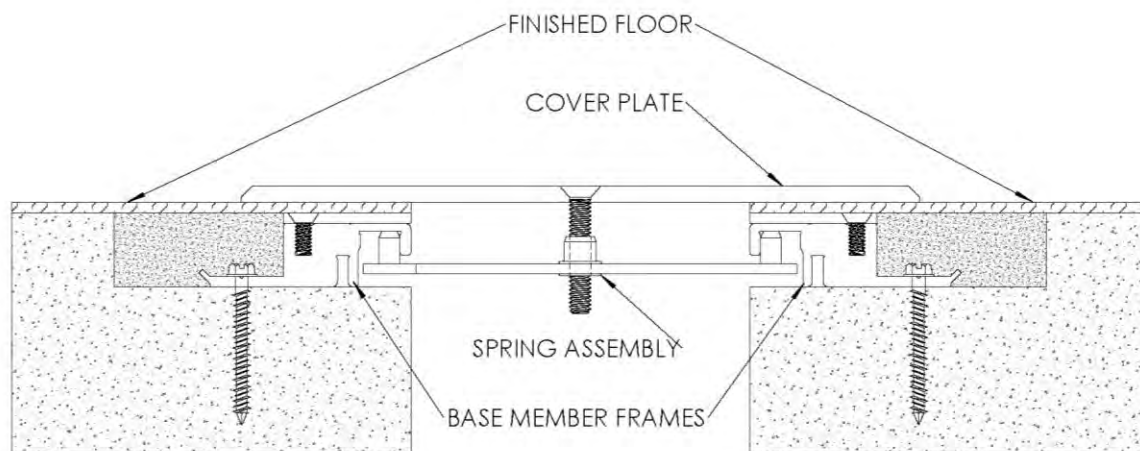

FIGURE 5
5. Position the cover plate centered over the base frame and with the center hole aligned with the spring assemblies. Attach the cover plate to the spring assemblies with the provided spring screws - **DO NOT OVERTIGHTEN**. **See Figure 5**